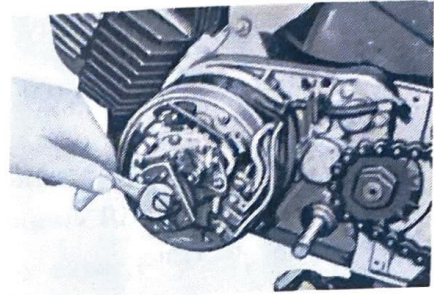

Fig. 5-4-16
- e) While watching the dial gauge, turn the governor until the piston lowers to 1.8mm Before top dead center. (Fig. 5-4-16)